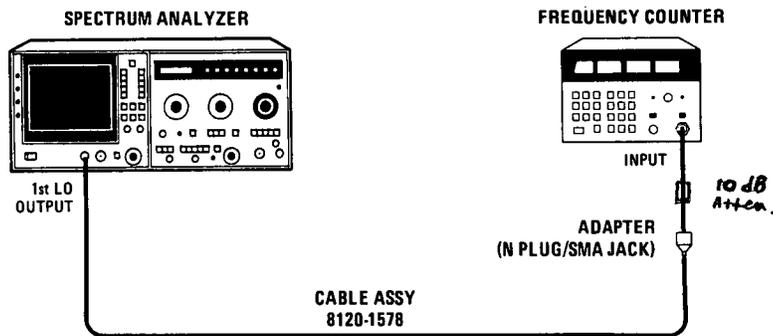

Figure 4-1. Tuning Accuracy Test Setup
4. Connect equipment as shown in Configuration A of Figure 4-1. Comb generator is connected to INPUT 50Ω connector of spectrum analyzer.
15. Disconnect comb generator from spectrum analyzer input. Connect sweep oscillator and frequency counter as shown in Configuration A of Figure 4-1.
\*\*Use HP 8350A/83570A with appropriate adapters in place of 8620C/86290A, Configuration A of Figure 4-1.
17. Connect equipment as shown in Configuration B of Figure 4-1.